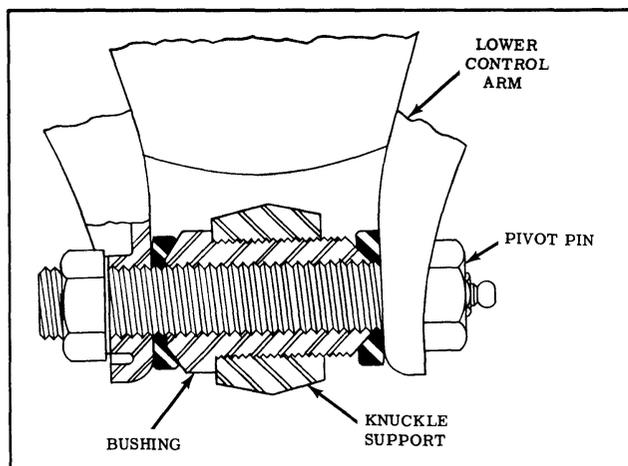

Fig. 4-8 Lower Pivot Pin
2. Remove nut from front end of lower pivot pin. (See Fig. 4-8)